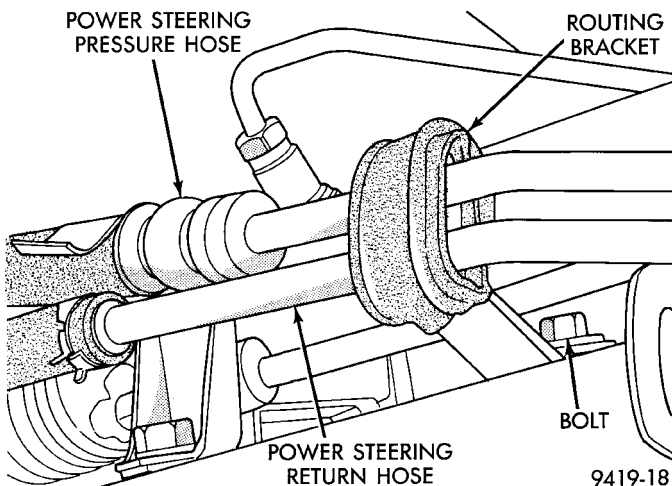

Fig. 9 Power Steering Pressure And Return Hose Routing Bracket
(8) If vehicle is equipped with power steering, remove power steering pressure and return hose routing bracket from front suspension crossmember (Fig. 9). **The hose routing bracket does not have to be removed from the power steering pressure and return hoses.**
CAUTION: Before removing front suspension crossmember from the vehicle, the location of the front suspension crossmember **MUST** be scribed on body of vehicle per (Fig. 9). This must be done so crossmember can be relocated against body of vehicle in the same location when it is reinstalled. If location of front suspension crossmember to body of vehicle is not maintained when vehicle is assembled, **NET BUILD** front suspension alignment settings will not be obtained. This may lead to handling and or tire wear problems.
(5) If vehicle is equipped with power steering, install power steering pressure and return hose routing bracket and attaching screw on front suspension crossmember (Fig. 9). Torque hose routing bracket to crossmember attaching bolt (Fig. 9) to 23 N·m (17 ft. lbs.).